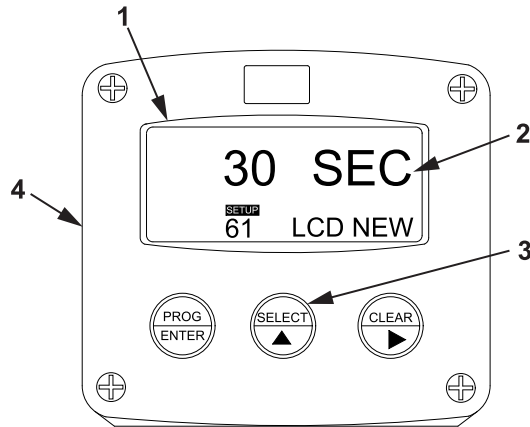

Figure 30. 30 SEC Display.
- b. Verify that 30 SEC (Figure 30, Item 2) appears on the display screen (Figure 30, Item 1). If 30 SEC (Figure 30, Item 2) does not appear, perform the procedure to program tank volume meter monitor settings and select 30 SEC (Figure 30, Item 2).
- c. Press the SELECT key (Figure 30, Item 3) on the tank volume meter monitor (Figure 30, Item 4).